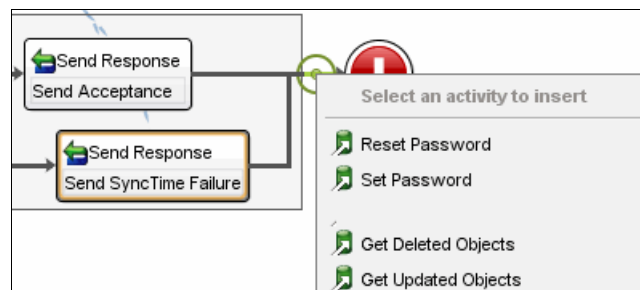

Figure 10-92 Add Get Updated Objects
2. Select **Get Updated Objects**, as shown in Figure 10-92.